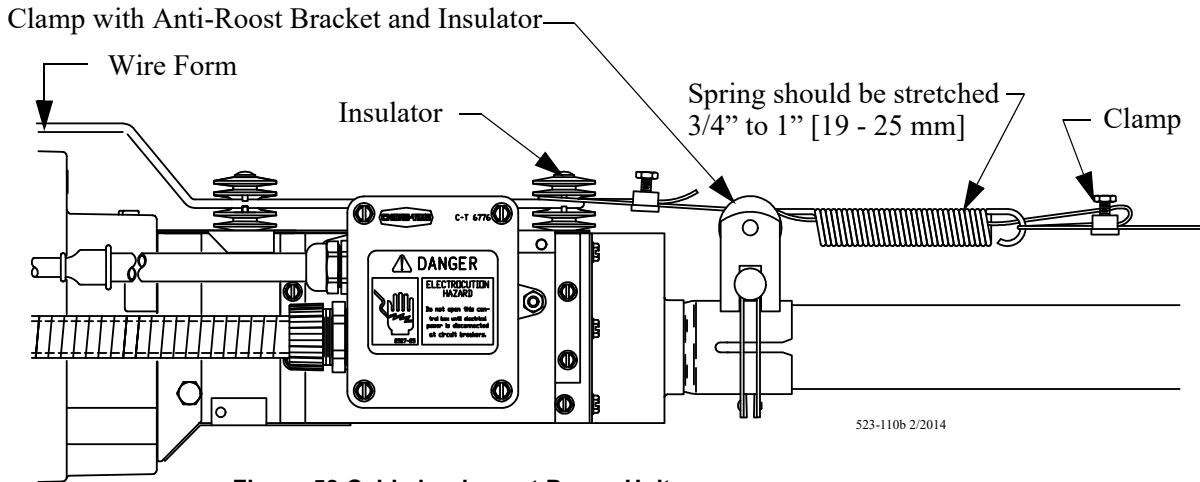

Figure 58. Cable hook up at Power Unit.
9. At the control unit, after clamping the cable to the spring, cut the cable about 8" to 10" (200 to 250 mm) longer than necessary. Feed the end of the cable through the center of the spring, around the first insulator on the control unit, and clamp the cable using the cable clamp supplied with the control unit. See **Figure 58**.
10. Install the wire form on the control unit insulators. Be sure the guard snaps into the retainers molded into the insulators. See **Figure 58**. At the control unit, after clamping the cable to the spring, cut the cable about 8" to 10" (200 to 250 mm) longer than necessary. Feed the end of the cable through the center of the spring, around the first insulator on the control unit, and clamp the cable using the cable clamp supplied with the control unit. See **Figure 58**.